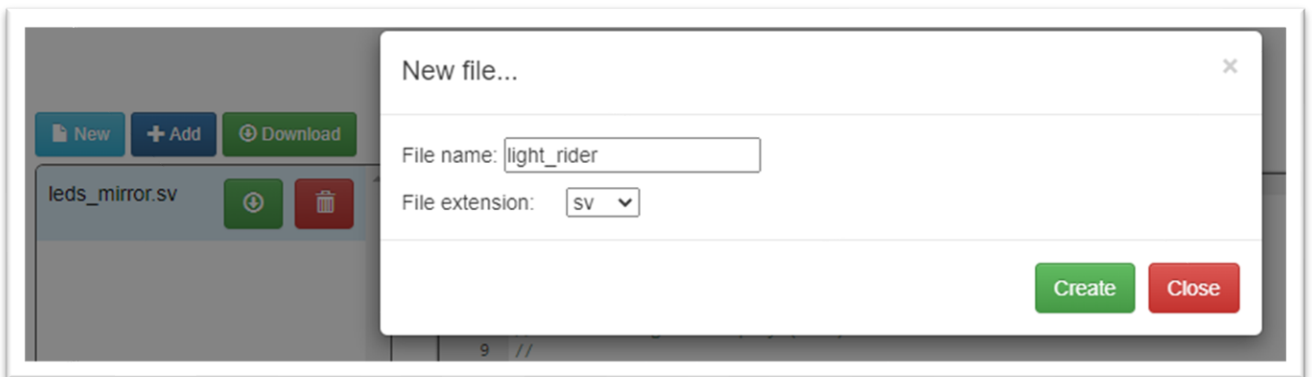

Figure 4: New file... dialogue box
2. Create a **New** file named light_rider (figure 4) and paste the contents.